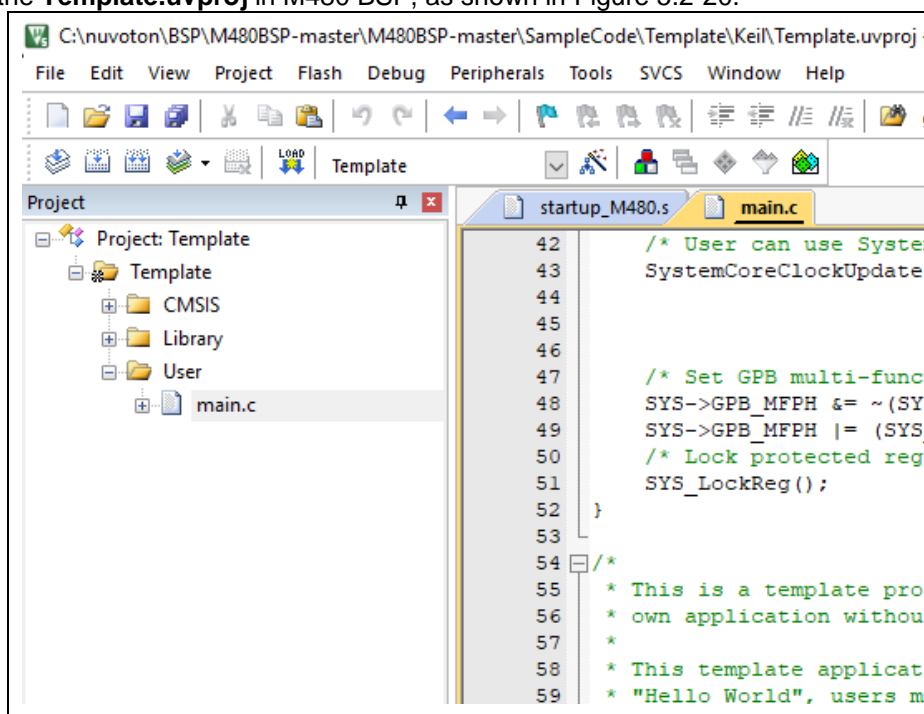

Figure 5.2-20 Open M480 project
(9) Open the **Template.uvproj** in M480 BSP, as shown in Figure 5.2-20.